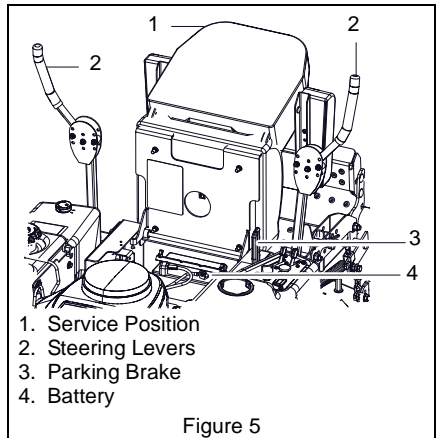

Figure 5
4. Tip seat forward (Figure 5).